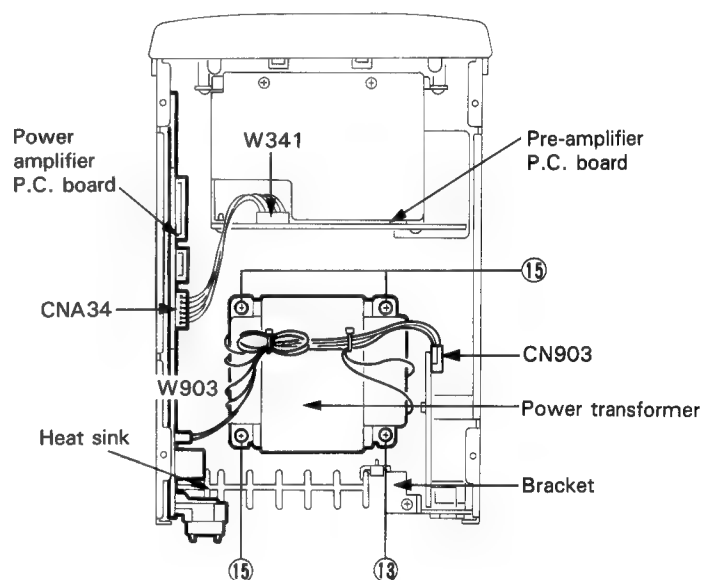

Fig. 7-14
■ Method of removing the power amplifier P.C. board (Refer to Fig. 7-14)
7. Remove the one screw (13) retaining the heat sink bracket on the power amplifier P.C. board (Refer to Fig. 7-14).
8. Remove the two wire treating clamps outgoing from W903 on the power transformer and power amplifier P.C. board (Refer to Fig. 7-14).
9. From the connector CN903 on the power supply P.C. board, remove the #4 PIN connector outgoing from W903 on the power amplifier P.C. board (Refer to Fig. 7-14).
(Refer to Figs. 7-14 and 7-15)
2. Remove the four screws (15) retaining the power transformer (Refer to Fig. 7-14).